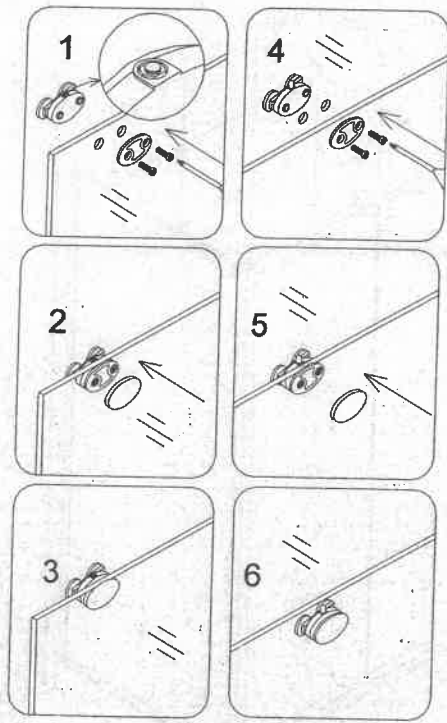
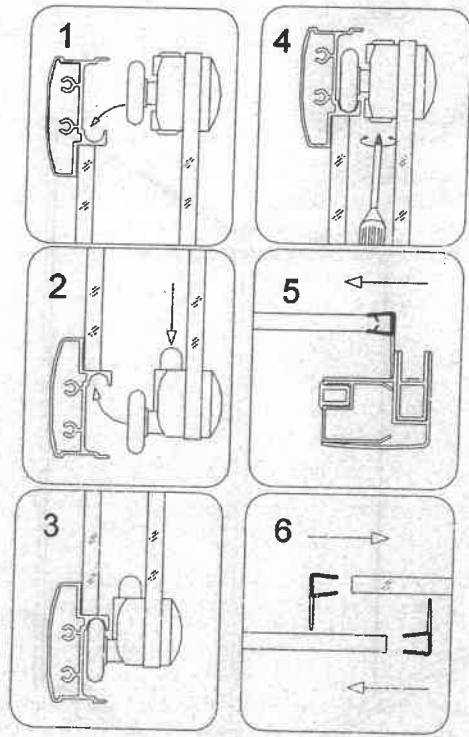

Fig 12
Fig 13
10. Your unit can be shipped to you with the **Wheel assemblies** installed on the doors. If not, please refer to diagram (Fig 12) how to install it. Attach the top and bottom wheels to the glass doors. The wheel that goes on the top has an adjustable screw and nut to adjust the door level. Note that the lock nut of upper wheel should face up. The bottom wheel has a press button to fix the wheel on the bottom guide rail; that button should face up. Place the **Anti-water strip (10)** on the long (vertical) side of the glass door and the stationary glass. And then place the **Glass door panel (4)** on the guide rails. See Fig 13 for details.